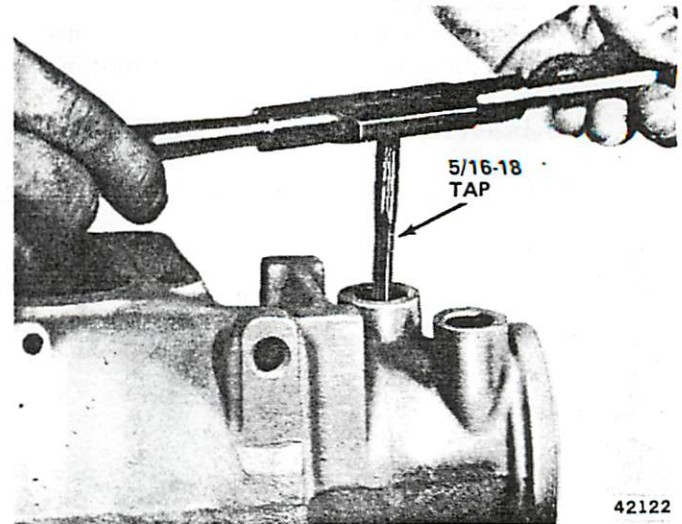

Fig. 2L-20 Threading Hose Connector Seats
(1) Pack seats and pressure ports with petroleum jelly to prevent chips from lodging in ports.
(2) Thread connector seats to depth of 2-3 threads (only) using 5/16-18 tap (fig. 2L-20).